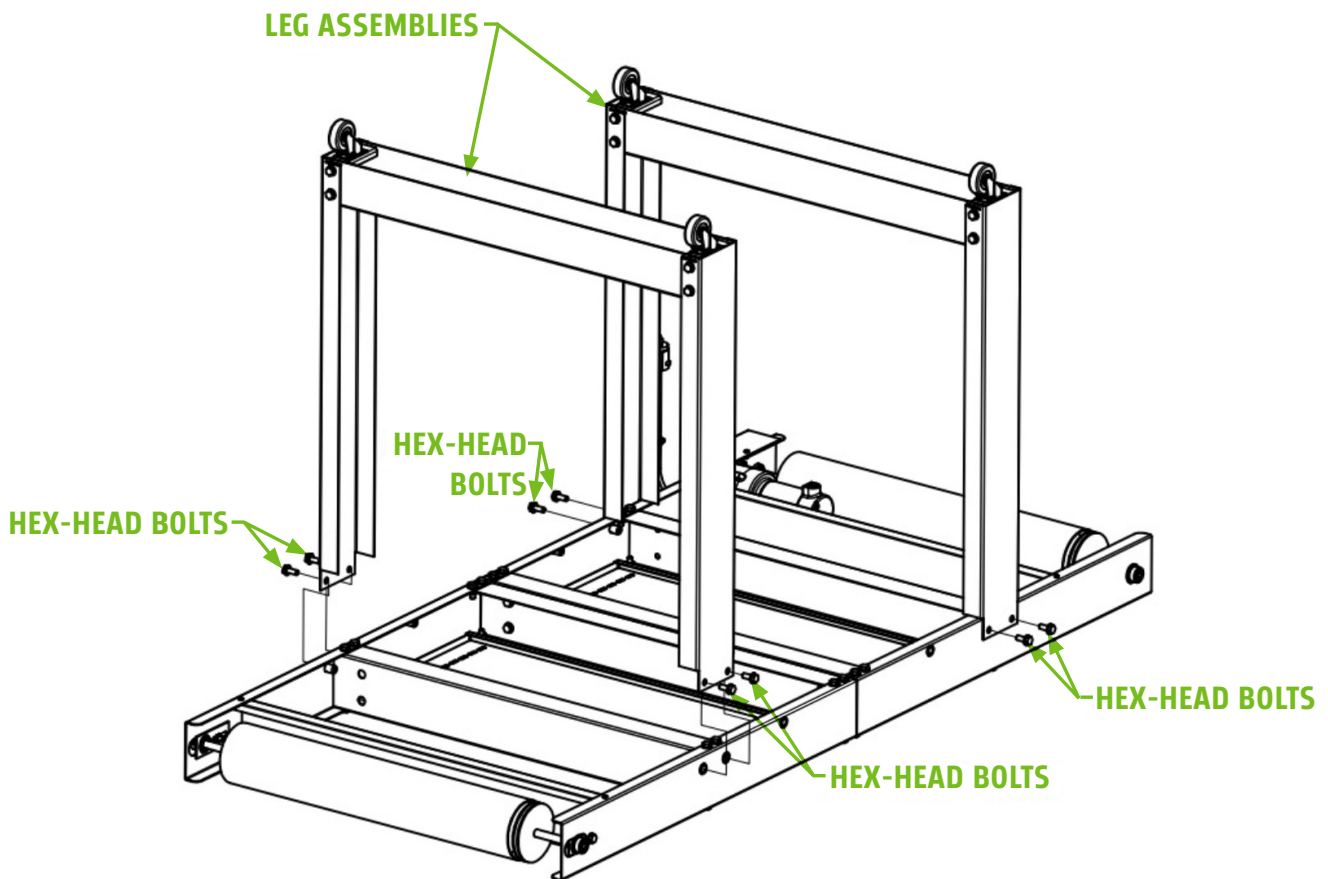

FIGURE 3
9. Install the eight Hex-Head Bolts (See **Figure 3**).